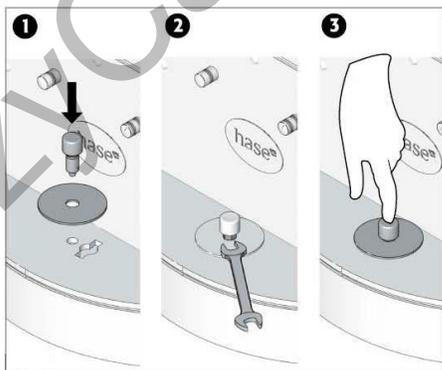

Figure 7: Tighten Mounting Screw
6. Rotate the stove back to the zero position and replace the Control knob (see fig. 7).
7. Insert the screw and tighten securely with the hex wrench (fig. 7).